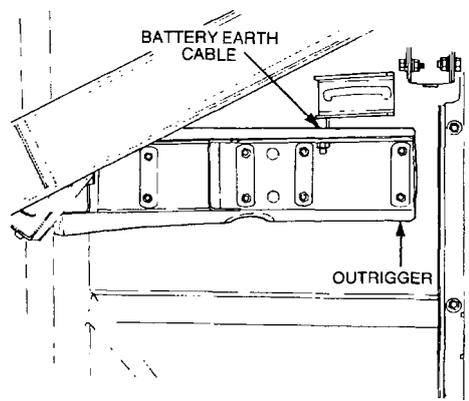

Figure 314 Removing the Body Mounting Bracket
- cc. Remove the bolts, nuts and washers securing the body mounting brackets to the chassis frame outrigger (Figure 314), then repeat the procedure for the opposite side. Remove the battery earth cable from the left side outrigger.
- k.** Install the nuts, washers and bolts retaining the body mounting brackets to the chassis frame outrigger (Figure 314) and tighten them securely. Repeat the procedure for the opposite side.